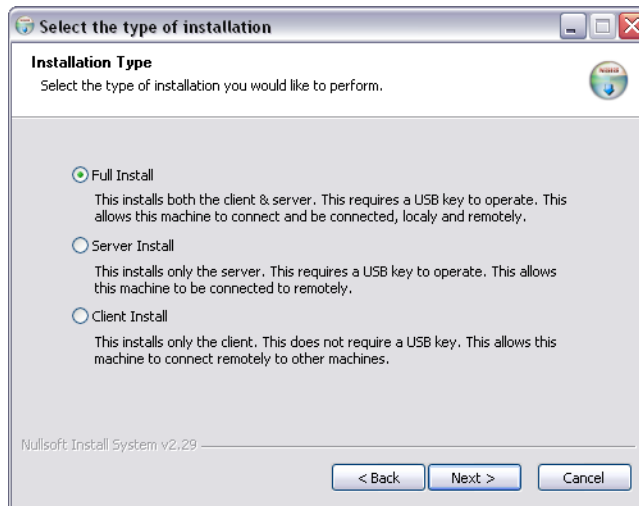

Figure 2-14 Installation Type screen
4. From the **Installation Type** screen shown in figure 2-14, select the radio button for the type of installation you will be making. The VMS software is comprised of two main components, the Server component and the Client component.